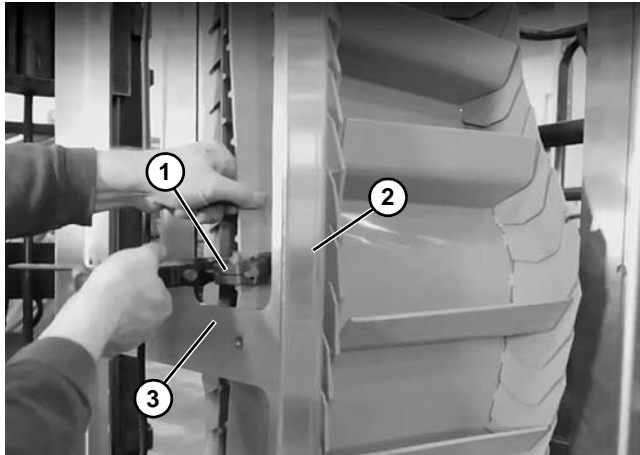

**Figure 40**
8. Lift the weight of the belt (Figure 40, item 1).